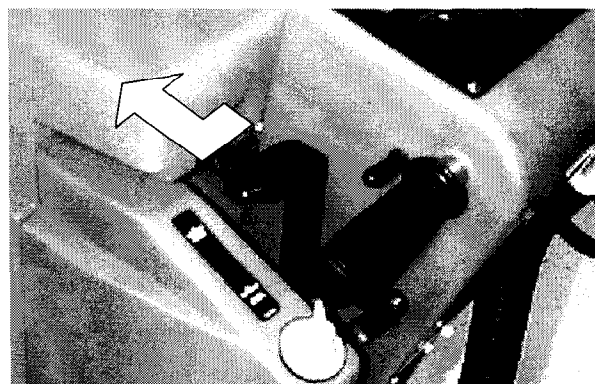

FIG. 12
2. Lower squeegee assembly. Disengage squeegee lift lever from the up position (Figure 12).